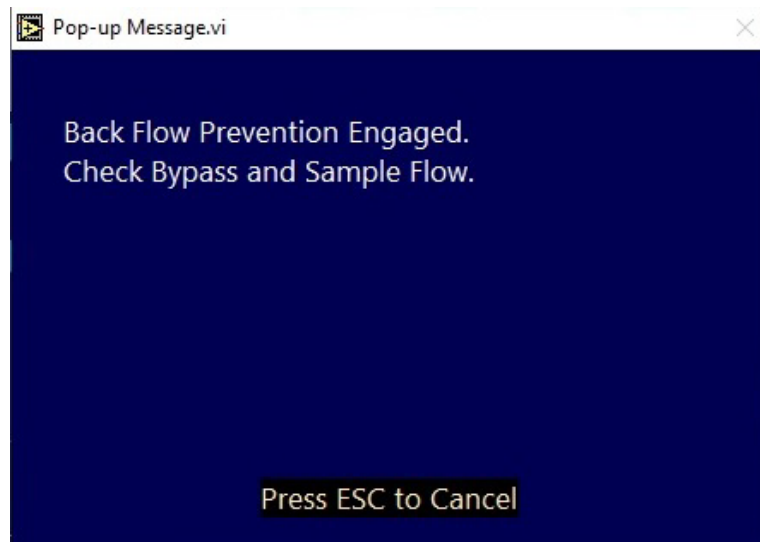

Figure 15: Back Flow Prevention Warning
During normal operation, gas flow is constantly monitored by a flow switch mounted in the bypass loop that is set to trip when the flow drops below 0.1 lpm. When flow is reduced, the switch will automatically activate the gas panel isolation valves. In addition, the pressure reading will be forced to zero. When the system detects a zero-pressure reading, a message will be displayed which states that backflow prevention is engaged and to check sample and bypass flow. See **Figure 15**. The event also triggers a system alarm (192) for the moisture cell. See page 50 for additional information on system alarms.